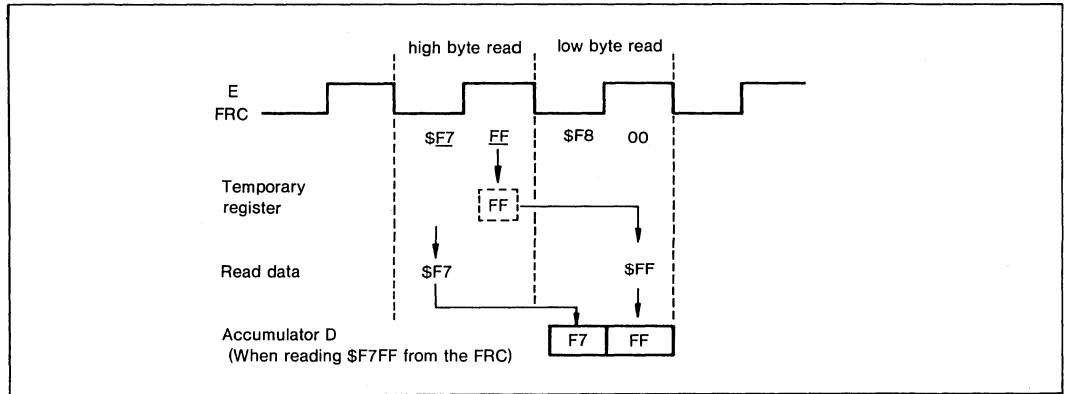

Figure III-5. FRC Double-Byte Read
**Answer:** It is correct. In the first cycle, the high byte of the FRC is read, when the low byte is set in a temporary register. At the next cycle, the data stored in the temporary register is read (figure III-5).